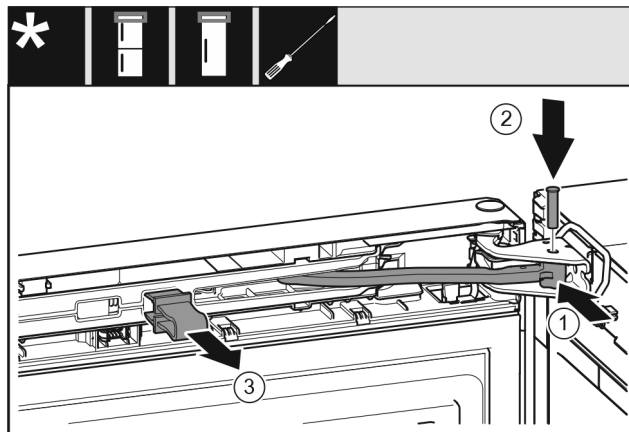

Fig. 72
- ▶ Turn the joint Fig. 72 (1) in the bearing block.
- ▶ Insert thebolt Fig. 72 (2) into the bearing bracket and joint. Ensure that the latching cam is in the groove properly.
- ▶ Remove the safeguard Fig. 72 (3).